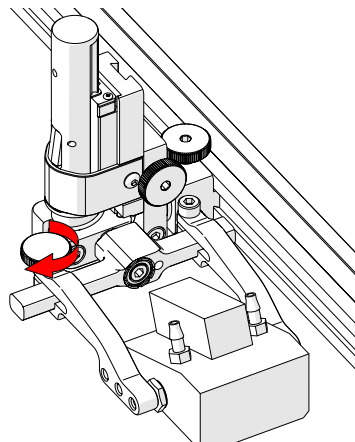

Fig. 131 - Tighten arm knob
6. Tighten the probe holder arm adjustment knob (Fig. 131).